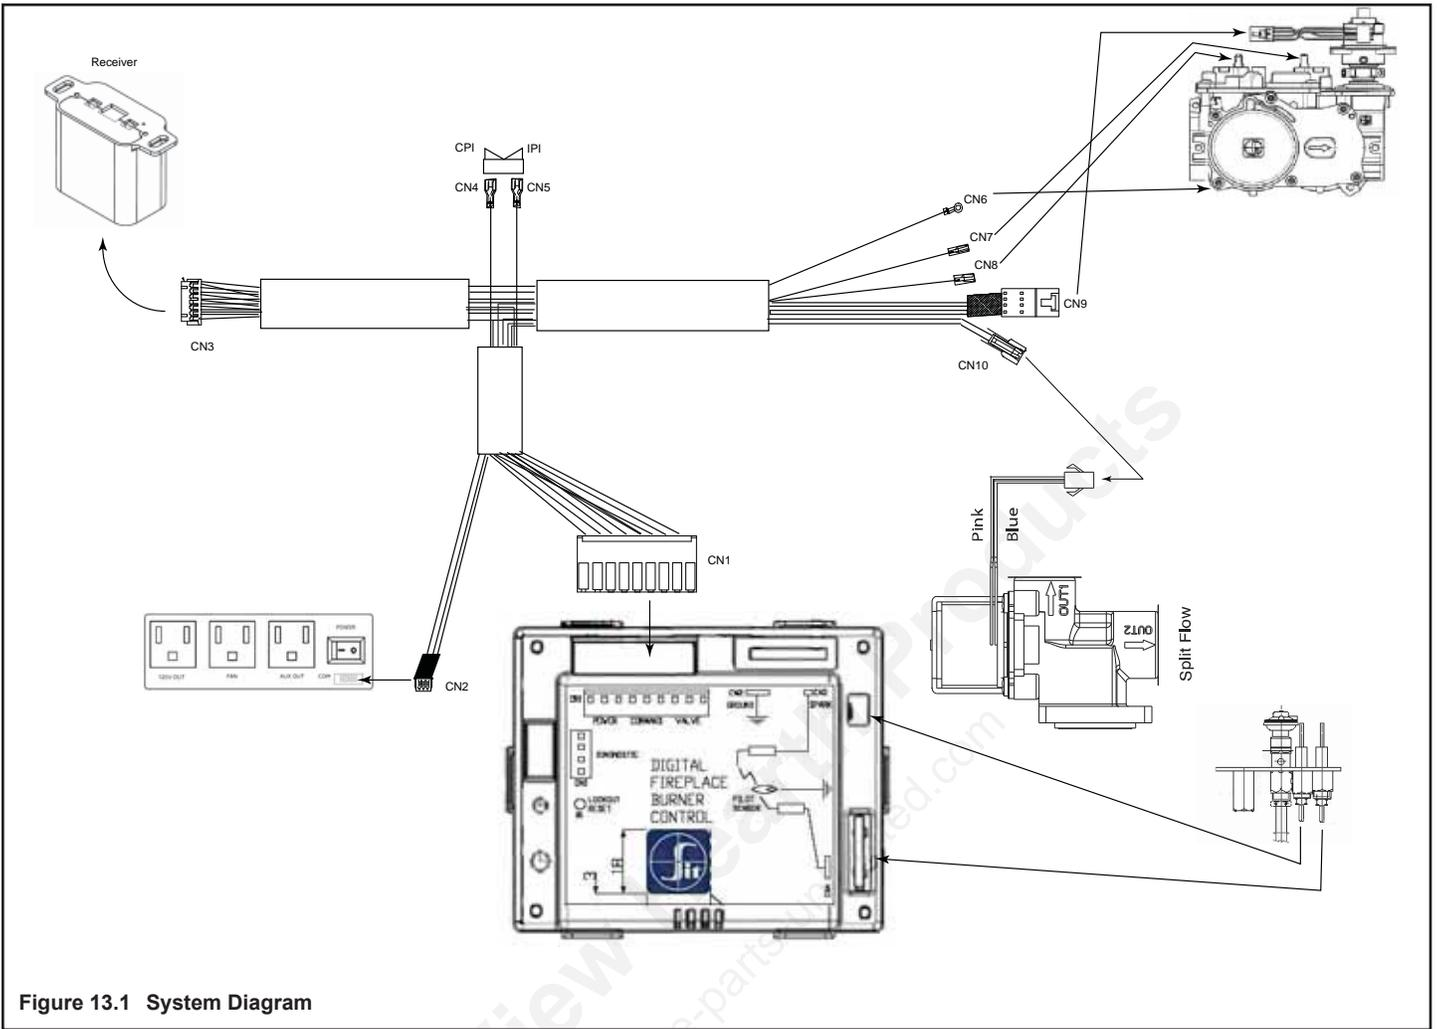

Figure 13.1 System Diagram
- Refer to Figure 13.1 System Wiring Diagram and 13.2 Wiring Diagram.